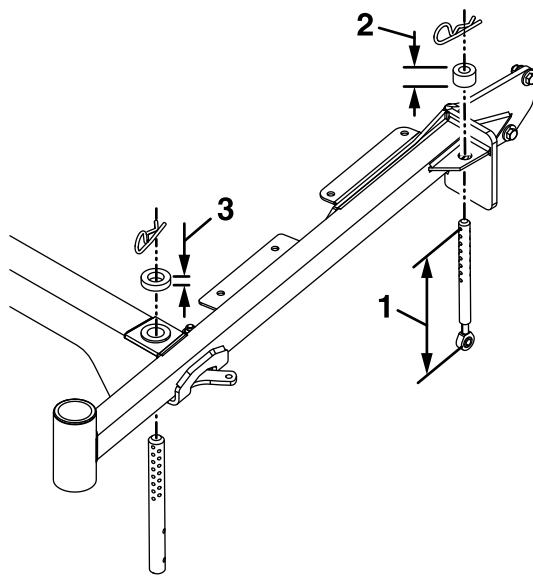

Figure 20
- C. The length of the rear deck support link assemblies average 7.76 inches (approximately 7 3/4 inches) (197 mm) from the center of the balljoint to the center of the farthest hole (see Figure 20).